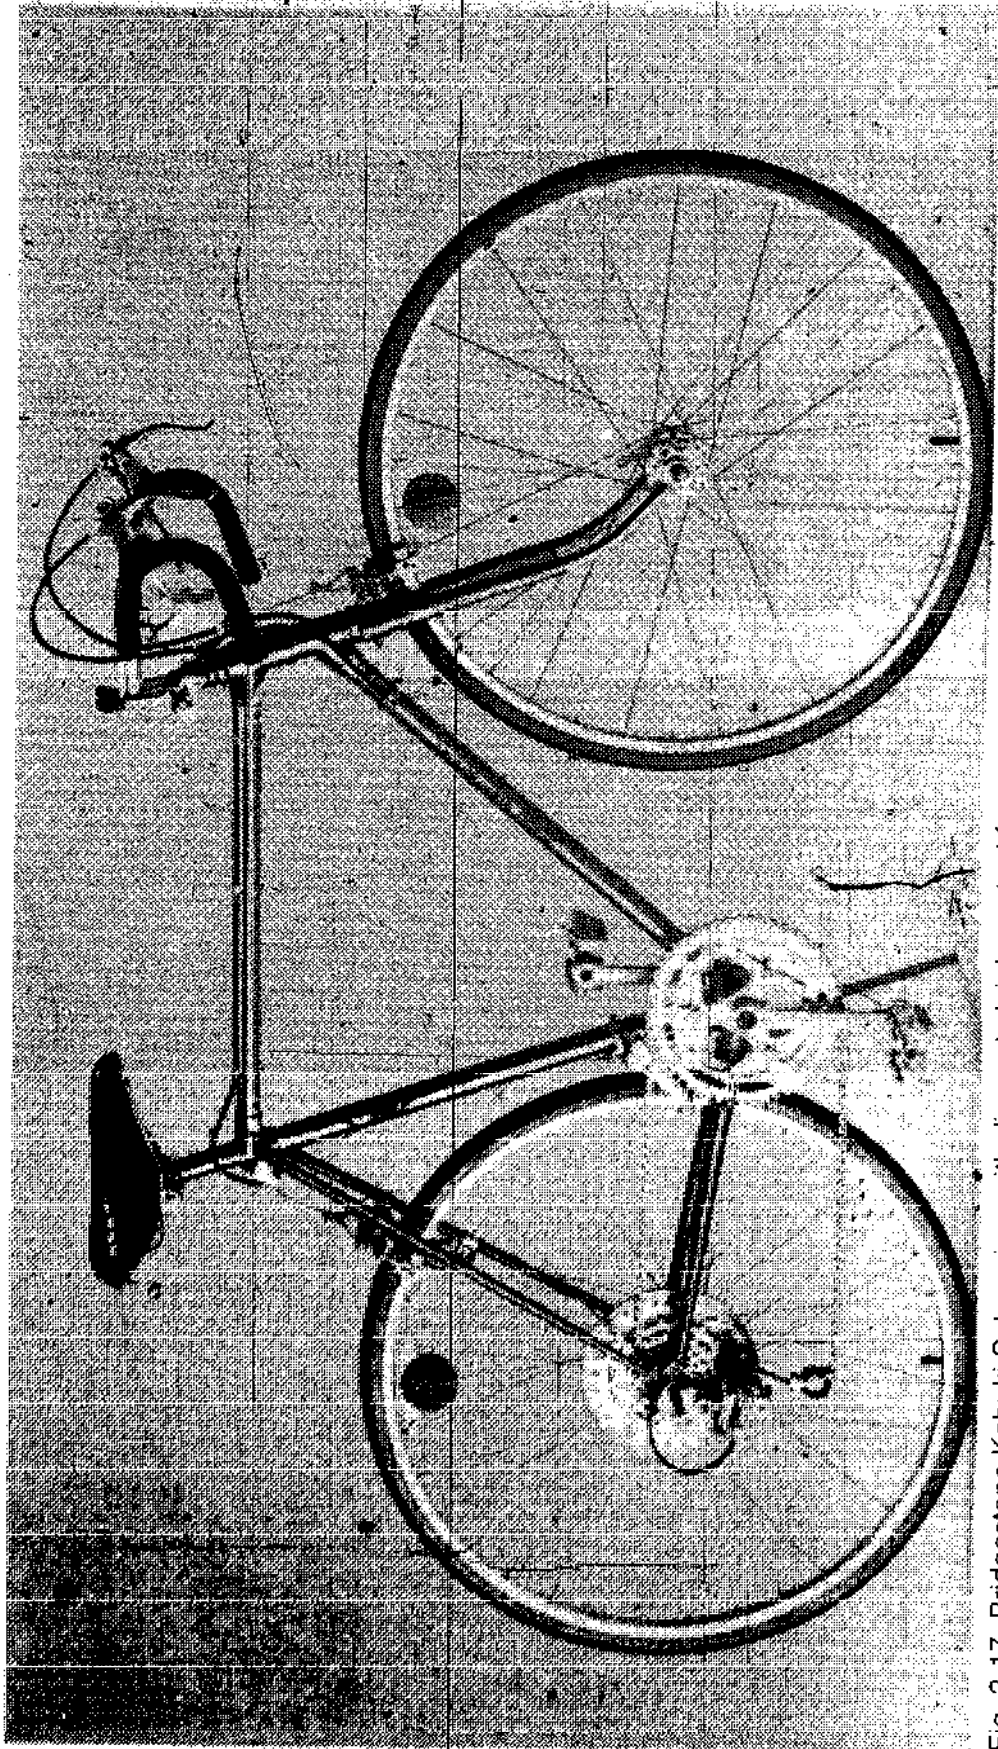

Fig. 2-17. Bridgestone Kabuki Submariner with die-cast stainless steel frame.
**Stainless Steel Frame.** The Japanese firm, *Bridgestone Cycle Industry Co., Ltd.*, features one bicycle in their line with a die-cast stainless steel frame. The bicycle, called the *Submariner*, is available with a regular (Fig. 2-17) and ladies' style frame. The bicycles come in several frame sizes with total bicycle weight ranging from 29 to 31 pounds.